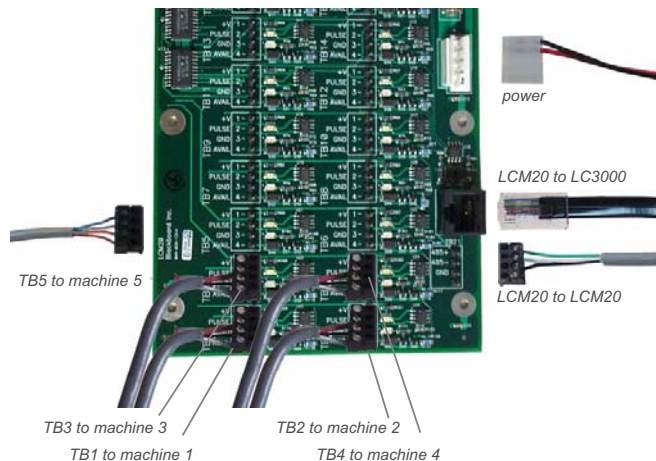

Figure 9: LCM20 Connections
- 5 Route 4-conductor cables from each LCM20 terminal block to a laundry machine (see Figure 9 below).
*Refer to Figure 9: LCM20 Connections (page 17).*
*Refer to **Figure 9: LCM20 Connections** (page 17).*